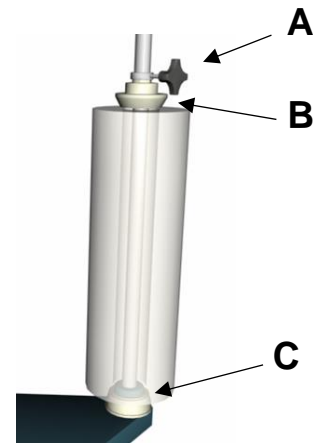

Fig. 3-1
Step 1 - Loosen fastening screw "A" and take off roll holder "B". (See Fig. 3-1)
Step 2 - Center the film core over the film shaft and lower onto the lower orientation plate "C" of the film shelf. (See Fig. 3-1)
Step 3 - Mount roll holder "B" and re-tighten fastening screw "A". (See Fig. 3-1)